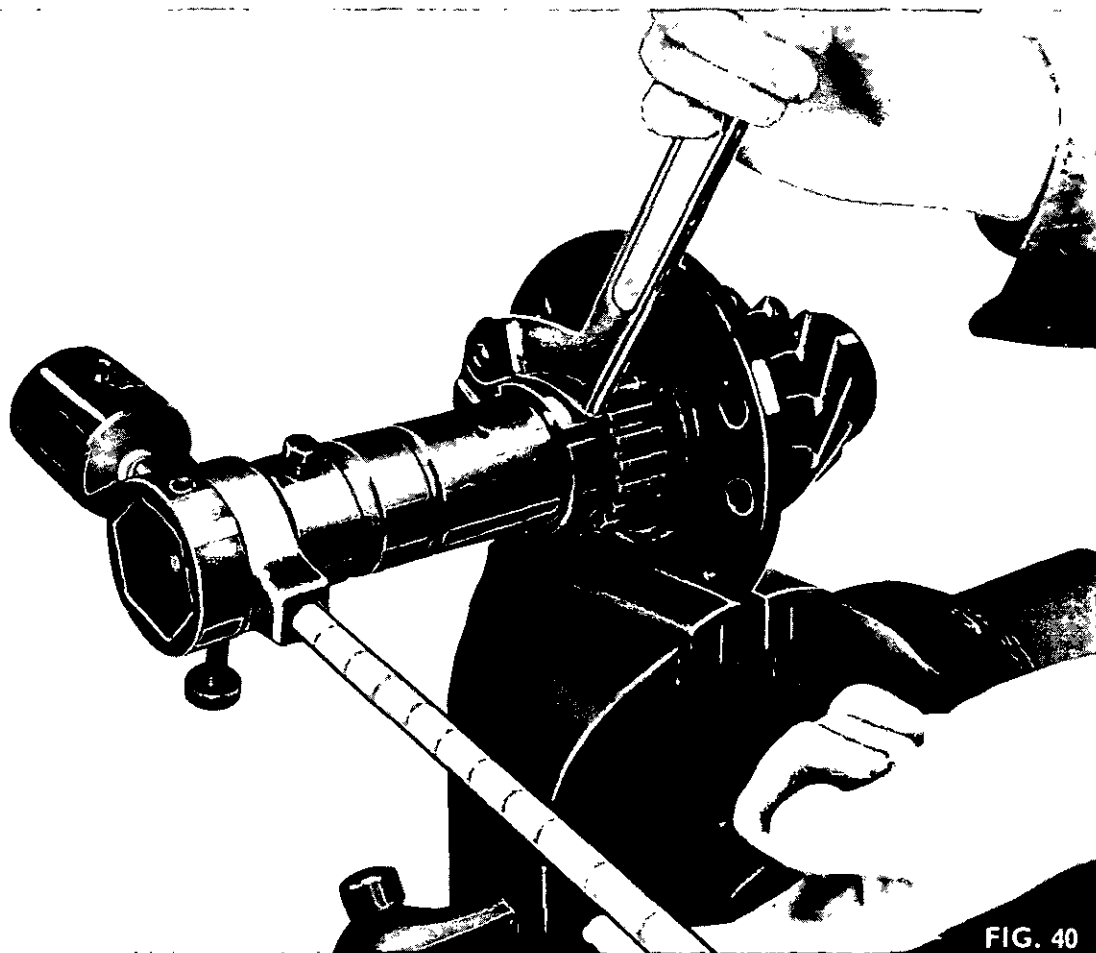

FIG. 40
6. Fig. 40. Tighten the locking ring (66) using the 3150 'C' spanner, simultaneously tapping the pinion to centralise the bearing. When the pre-load is correctly set, the weight on the gauge should just fall freely under its own weight.